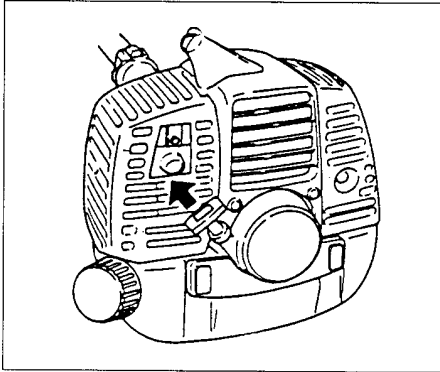

Fig. 2-2D
3. To start the unit with the recoil starter, if so equipped, follow starting procedures number 1 and turn the switch to the "On" position then pull the recoil starter handle briskly. (Fig. 2-2D)